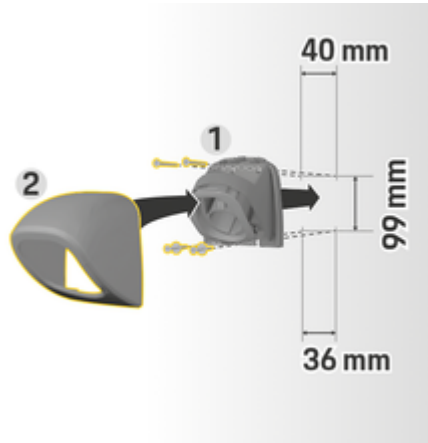

Fig. 5: Drilling dimensions
1. Remove the connector fastener **1** (Fig. 5) from the cover **2** (Fig. 5).
4. Screw the connector fastener **1** (Fig. 5) onto the wall.
5. Fit the cover **2** (Fig. 5) onto the connector fastener **1** (Fig. 5) from below and push up.